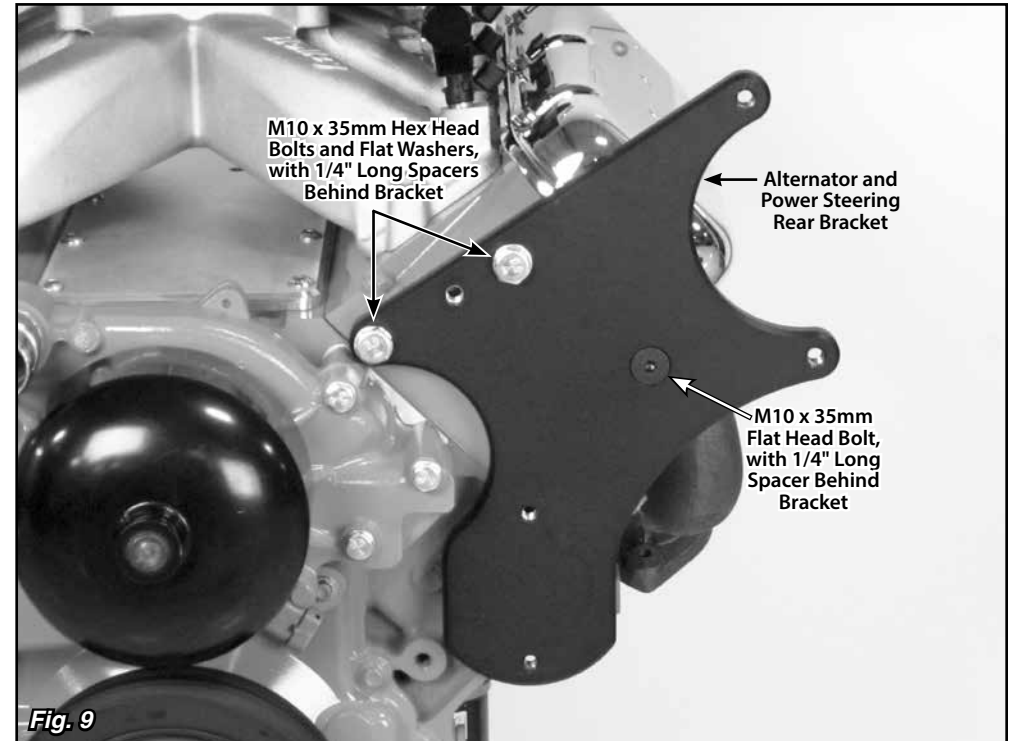

Fig. 10
Step 9: The 7/8" long stepped spacers have different shoulder heights. The spacer with the taller shoulder height fits the grooved plastic pulley, and the spacer with the shorter shoulder height fits the smooth steel pulley. **Fig. 10**